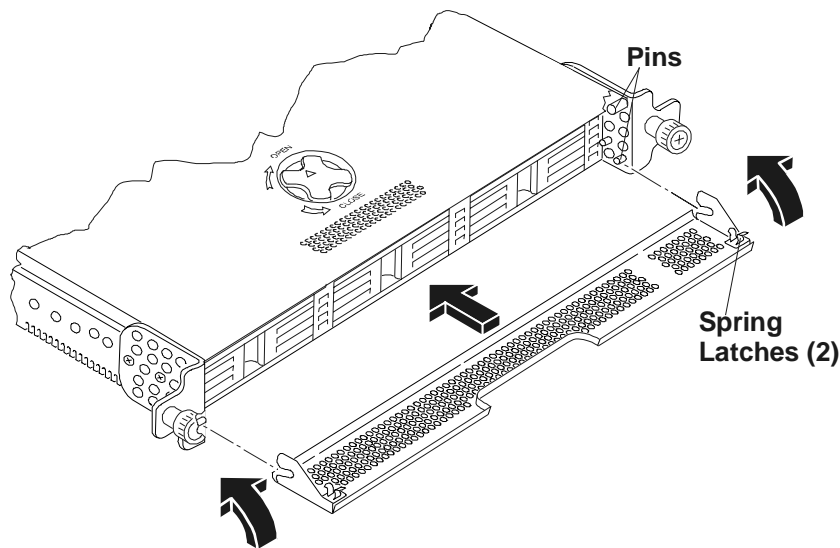

Figure 13-7. Attaching the Bezel to the Netserver
1. Position the Bezel in front of the HP Netserver LP 1000r as shown in Figure 13-7.